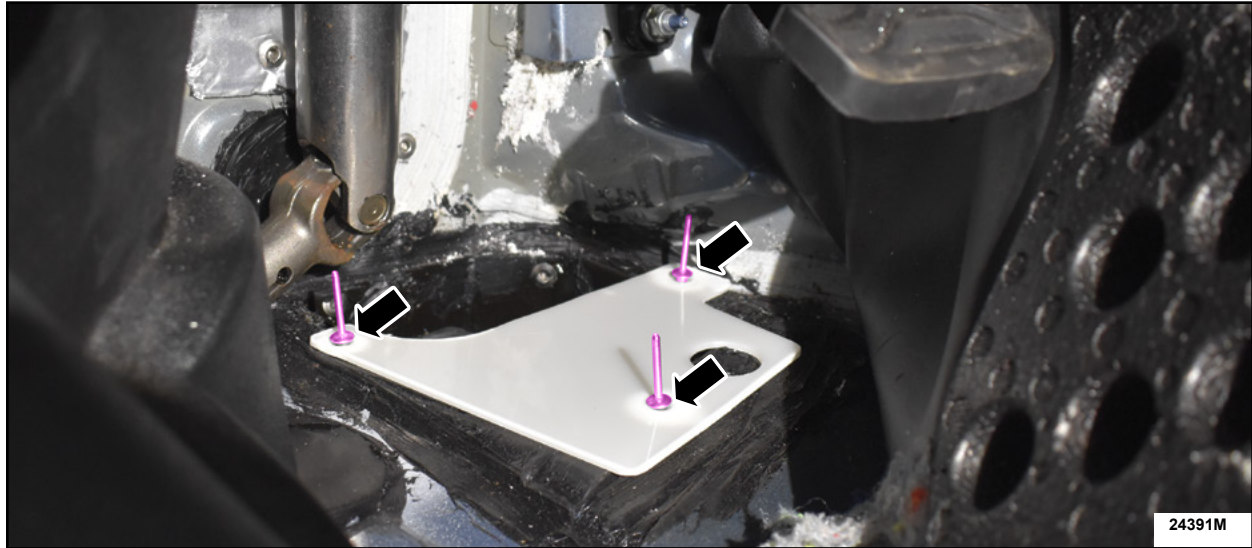

FIGURE 12
20. Using the plastic plate in the parts kit, lay it over the steering column shaft body opening and place three (3) of the provided rivets, (Part Number W525401-S900), in their original location as shown in Figure 12.